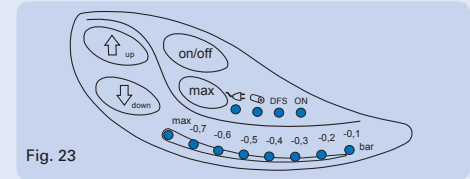

Fig. 23
b) Digital secretion aspirators M20D and M30D (see fig. 23)